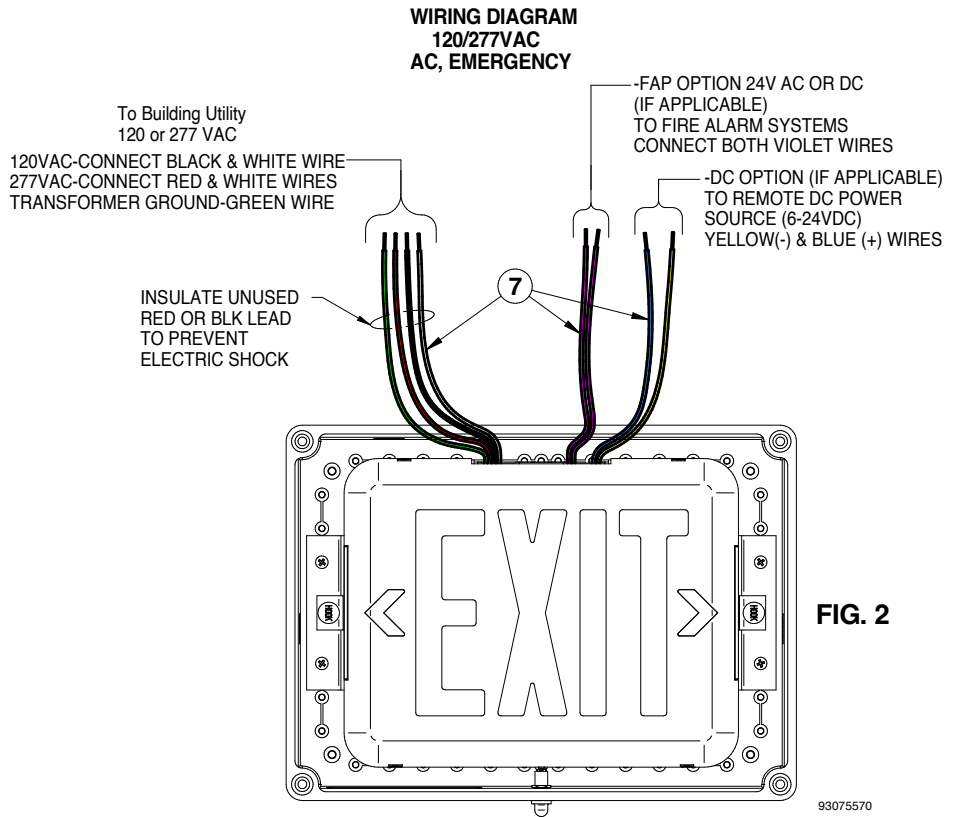

FIG. 2
7. Make all connections to building utility AC conductors using color coded leads provided. ( See Fig. 2)